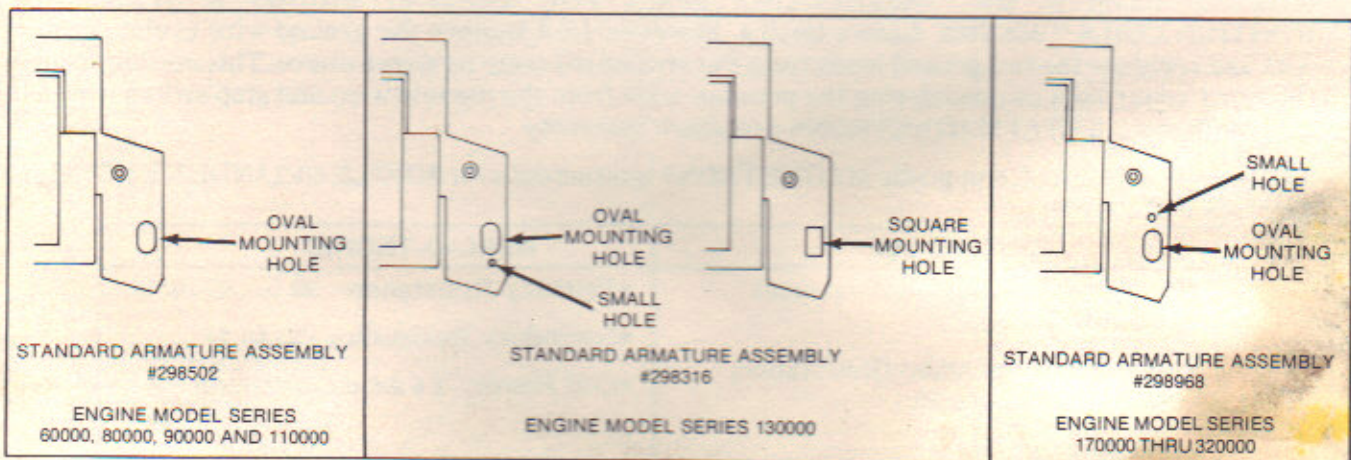

Figure 2
Throughout the current Briggs & Stratton SINGLE CYLINDER engine line, four (4) styles of ignition armature assemblies are used. One of the basic differences among these armatures is number of turns of wire within the coil body. This difference is only noticed when testing the coils since each one has its own separate set of test values. Other basic differences are found upon the legs of the armatures, figure 2.